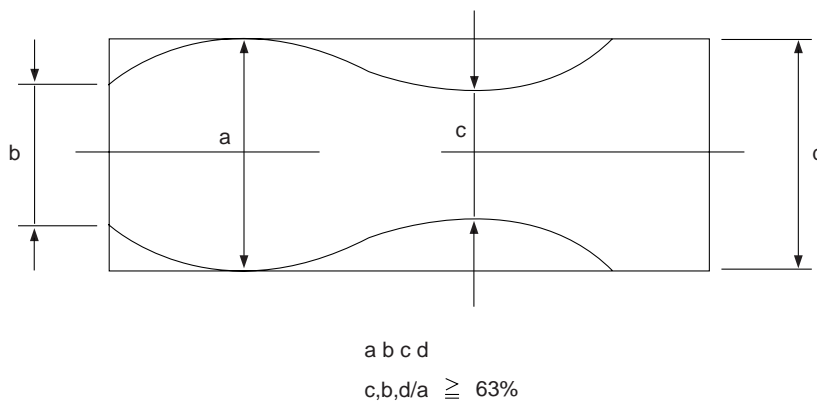

Fig. 6-14 Envelope Waveform Adjustment
- 3) Make sure the video envelope waveform (at its minimum) meets the specification shown in Fig. 6-14.